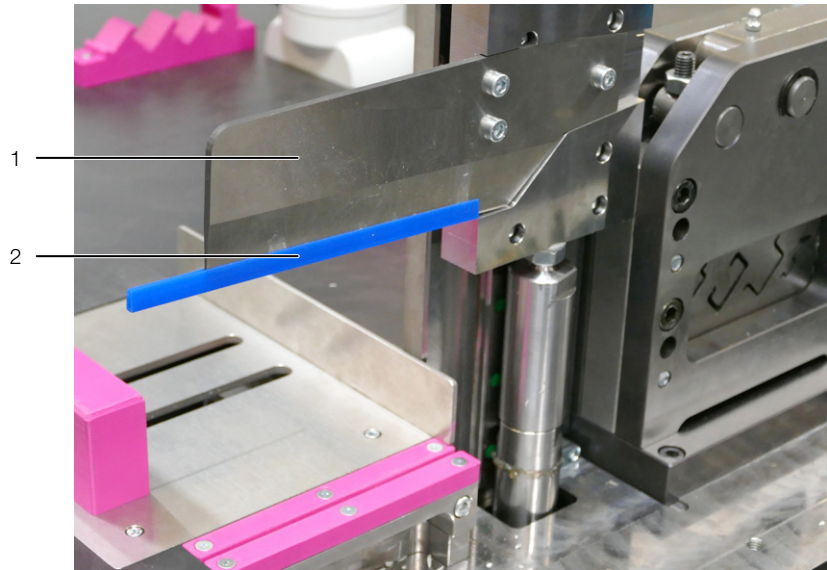

Fig. 36: Blade protection
- Place the blade protection on the duct tool (fig. 36).